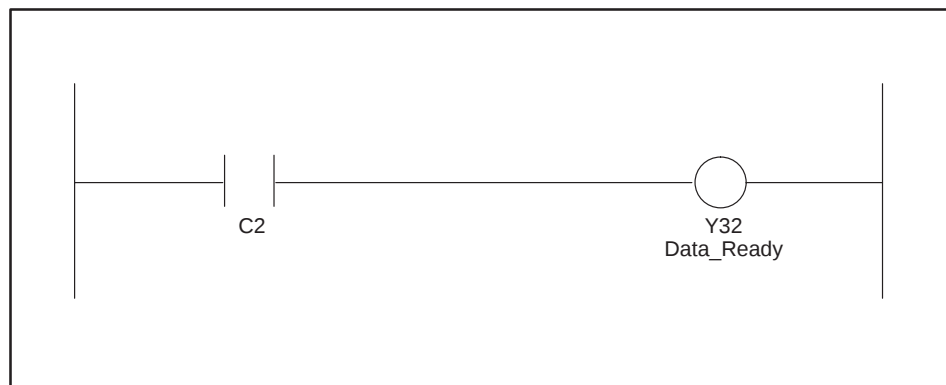

Figure 3-10 The Data_Ready Bit
4. Y32 Data_Ready is energized to transfer the word data into the module (see Figure 3-10).